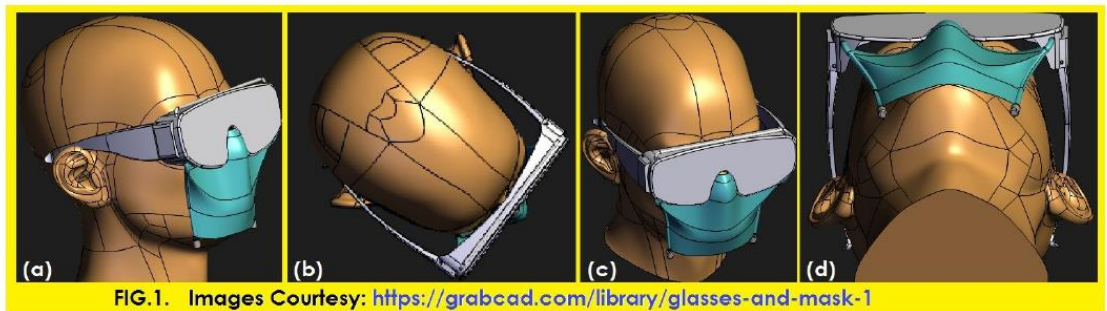
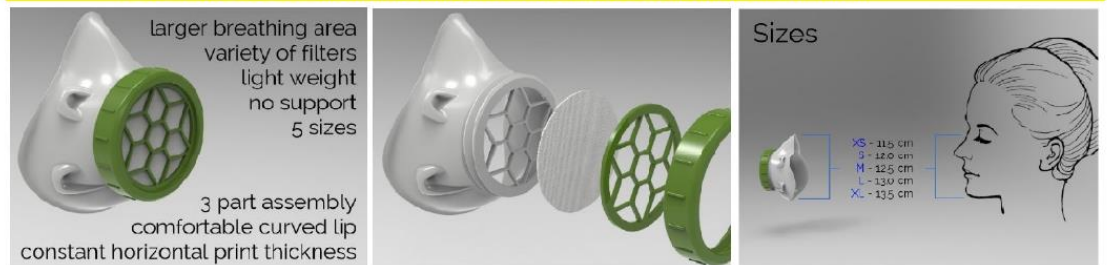

FIG.1. Images Courtesy: <https://grabcad.com/library/glasses-and-mask-1>
FIG. 2. Images Courtesy: NIH 3D Print Exchange, <https://3dprint.nih.gov/discover/3dpx-014004>
A sample unit of the Face Mask-cum-Glasses is shown in images of Fig. 1 below, for reference. Fig. 2 shows images of only the Face Mask without glasses.
- o. As per the contents mentioned in the image of Fig.2, this is not really suitable for SLS, SLA or injection molding due to varying wall thickness (0.85-1.2 mm). So, whether your device has varying or uniform wall thickness?